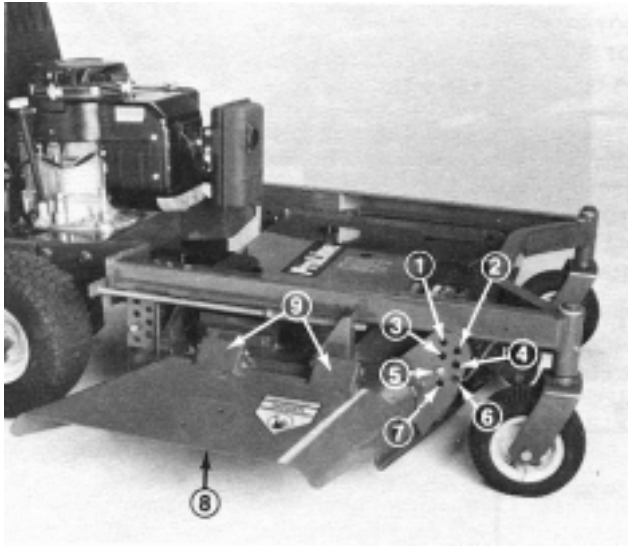

Figure 5
2. Mount cutting unit to carrier frame with four (4) clevis pins and hair pin corders (Fig. 5).
The height-of-cut is adjustable from 1" to 4" or 2" to 5" (depending on traction unit) in 1/2" increments by relocating clevis pins in different hole locations in brackets at each corner of cutting unit (Fig. 5). Stop engine before making height-of-cut adjustment.